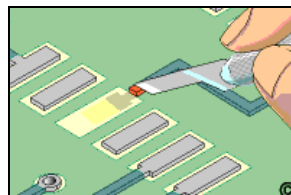

Figure 1: Remove the defective pad and soldermask from the connecting circuit.
1. Remove the defective surface mount pad and a short length of the connecting circuit, if any. (See Figure 1)
3. Scrape off any solder mask or coating from the connecting circuit and clean the area. (See Figure 1).